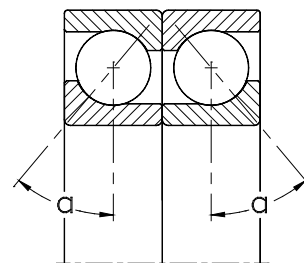

Fig. 2.3
**Single row angular contact ball bearings for universal matching** are specially manufactured for applications, where two individual bearings are mounted side by side in random order, e.g. in back-to-back arrangement (fig. 2.3).